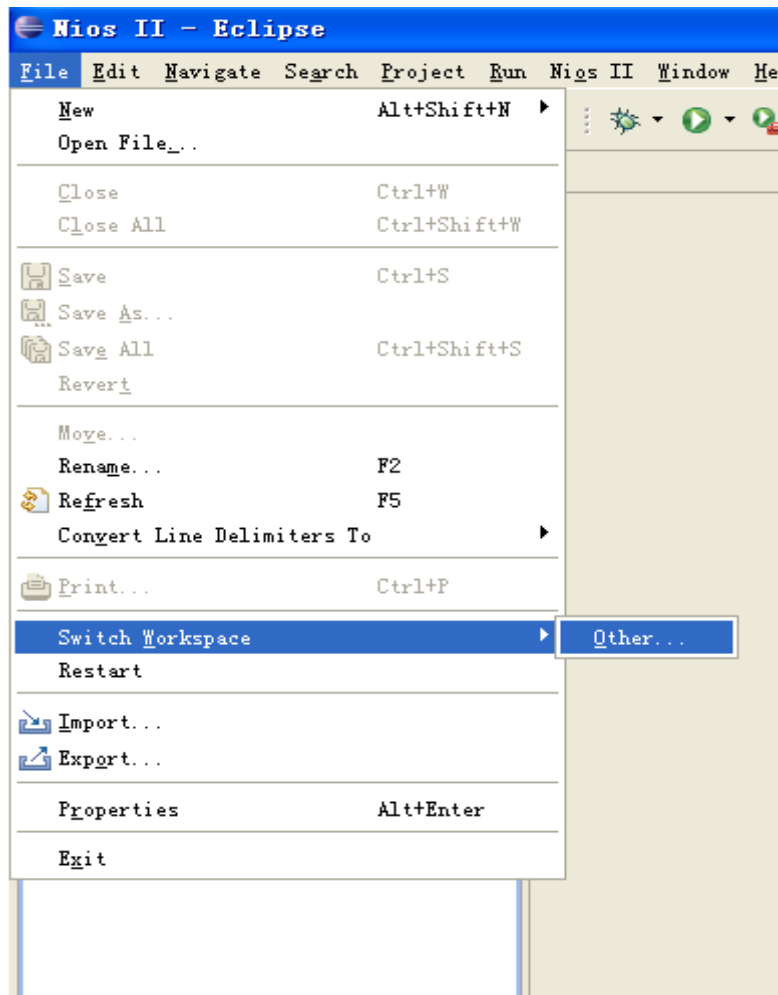

Figure 2-1 Switch Workspace (1)
2. Choose **File > Switch Workspace** to switch workspace. See Figure 2-1 and Figure 2-2.